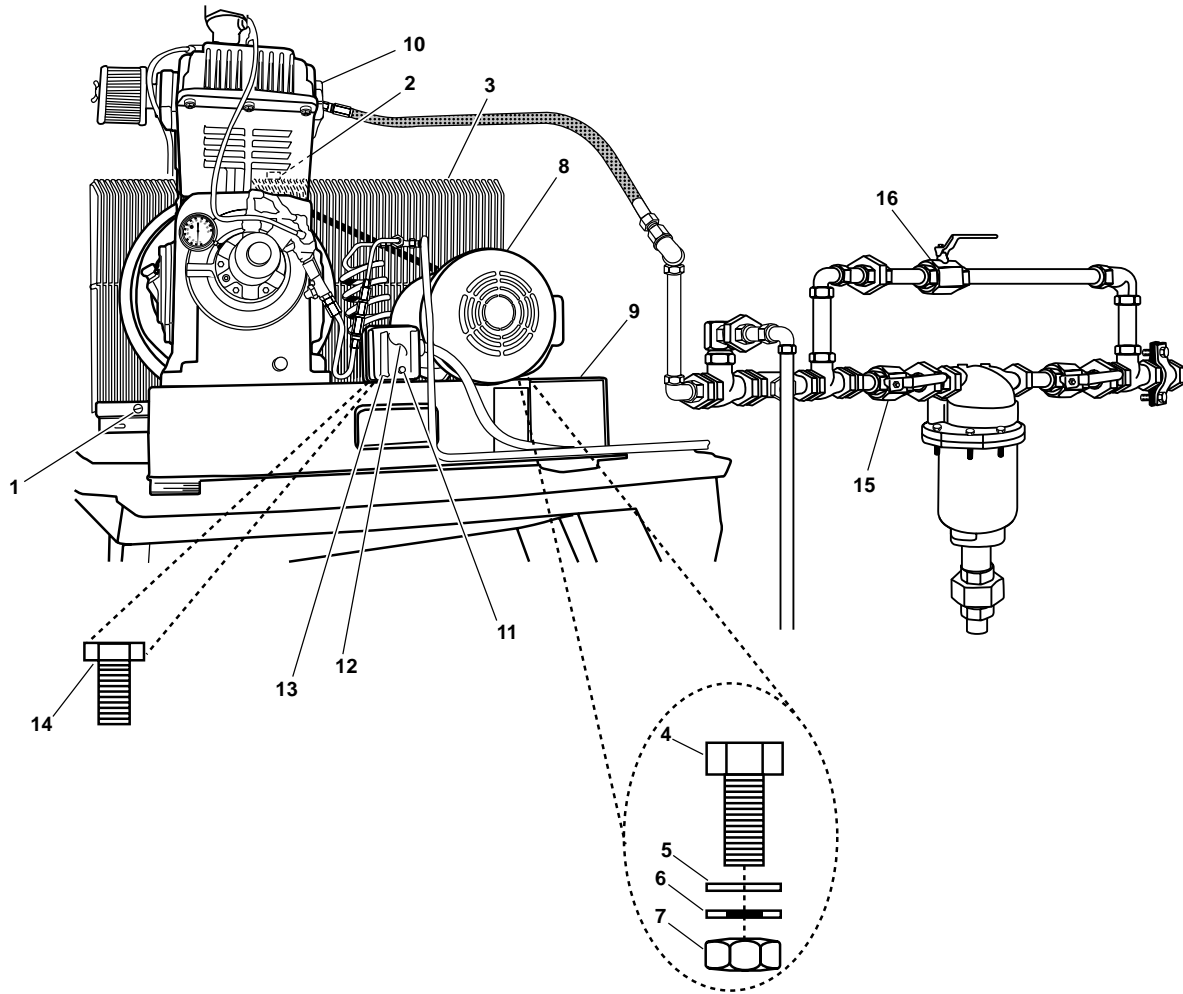
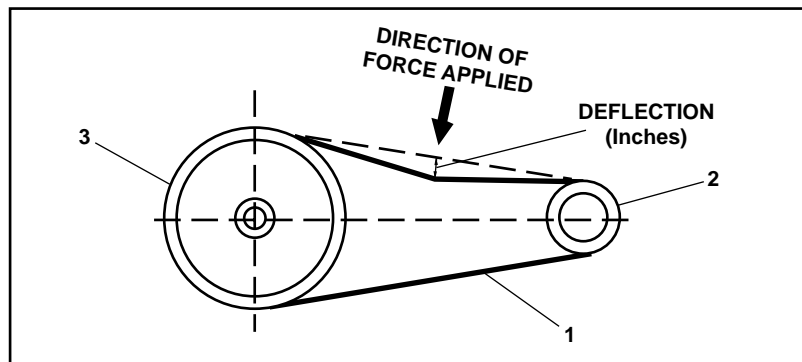

Figure 1. Belt Removal
Figure 2. Belt Tensioning
1. Remove the three lower screws (figure 1, item 1) and one upper screw (figure 1, item 2) that secure the belt guard (figure 1, item 3). Remove and set aside the belt guard.
2. Remove the four bolts (figure 1, item 4), four washers (figure 1, item 5), four lockwashers (figure 1, item 6), and four nuts (figure 1, item 7) that secure the motor (figure 1, item 8) to the foundation (figure 1, item 9). Discard the lockwashers.
3. Slide the motor (figure 1, item 8) toward the compressor (figure 1, item 10) until the belt (figure 2, item 1) is loose enough to slide off the motor pulley (figure 2, item 2) and compressor sheave (figure 2, item 3). Remove the belt.
5. Remove the two bolts (figure 1, item 14) that secure the pressure switch (figure 1, item 13) to the compressor foundation (figure 1, item 9). Remove the pressure switch.
1. Install the four bolts (figure 1, item 4), four flat washers (figure 1, item 5), four new lockwashers (figure 1, item 6), and four nuts (figure 1, item 7) that secure the motor (figure 1, item 8) to the foundation (figure 1, item 9). Do not tighten at this time.
2. Position the belt on the compressor sheave (figure 2, item 3) and motor pulley (figure 2, item 2).
3. Slide the motor (figure 1, item 8) away from the compressor (figure 1, item 10) until the proper belt tension is achieved. Proper tension is achieved when the belt may be deflected 1/2 inch (13 mm) at its midpoint (figure 2) when applying approximately 4 to 5 pounds (1.8 to 2.3 kg) of force to the belt. A new belt should be tensioned tighter (approximately 3/8 inch (10 mm) deflection). Tighten the four bolts (figure 1, item 4) and nuts (figure 1, item 7) at this time.
5. Install the belt guard (figure 1, item 3) and secure it with the three lower screws (figure 1, item 1) and one upper screw (figure 1, item 2).
1. Remove the screw (figure 1, item 11) that secures the cover (figure 1, item 12) to the pressure switch (figure 1, item 13). Remove the cover.
1. Position the pressure switch (figure 1, item 13) on the compressor foundation (figure 1, item 9), and secure it with the two bolts (figure 1, item 14).